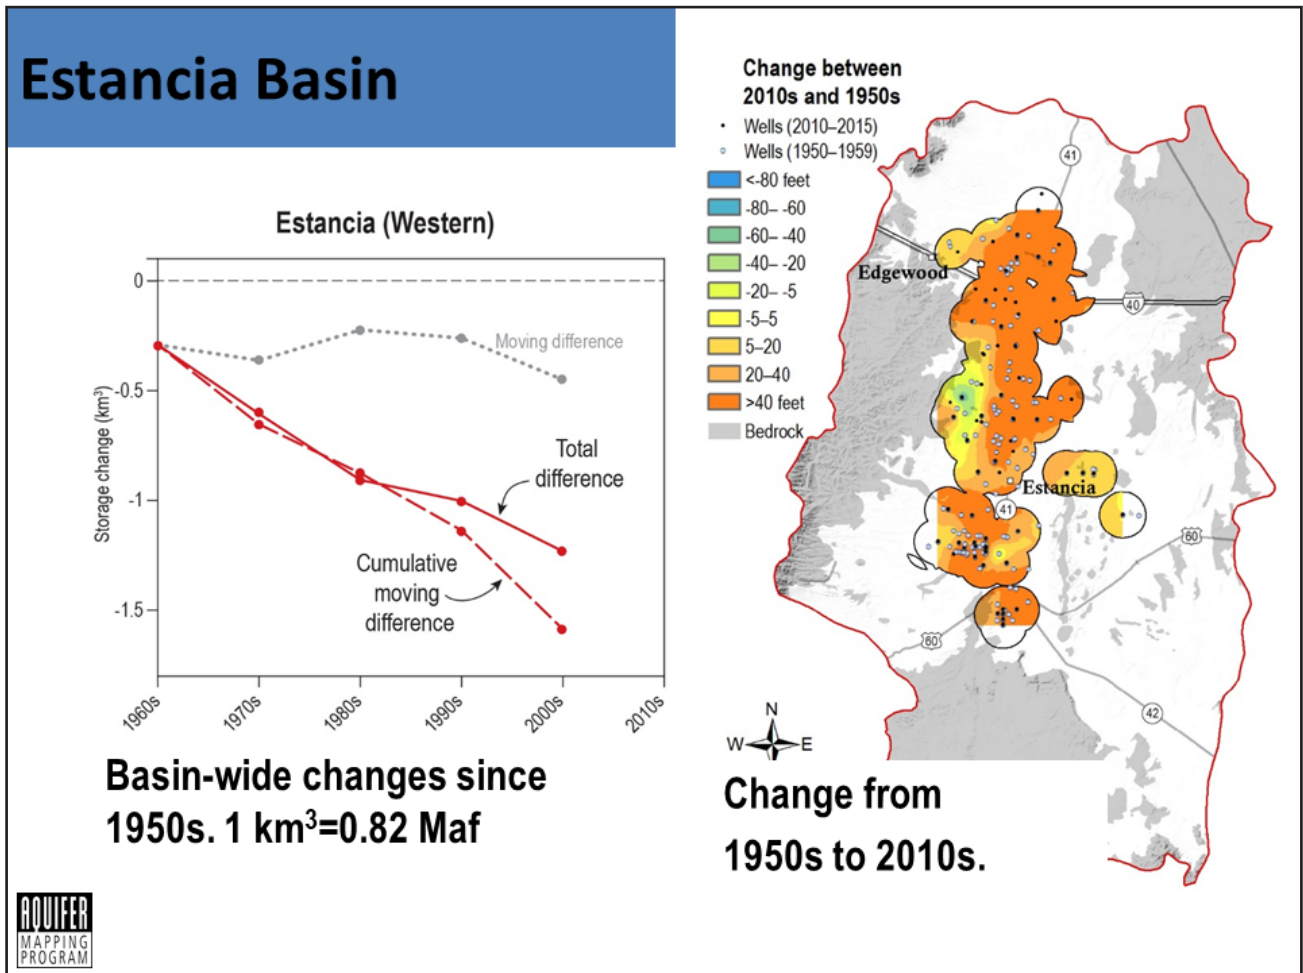

Figure 3. Groundwater storage change in the Estancia Basin.
1.2 to 1.5 million acre-feet (Figure 3). Apparently in portions of the northern part of the Estancia Basin, they are essentially through their saturated thickness. They are looking for new groundwater resources to exploit.